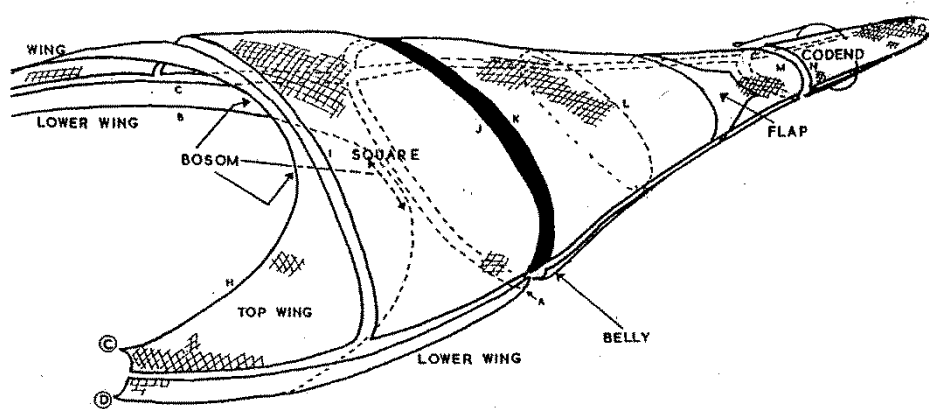

Figure 15. Sections of netting in a trawl gear.
**Square:** The section of netting fitted between the top body and the two top wings, so that it partially overhangs the footrope (see FIGURE 15).
**Top Wings:** Two sections of netting, usually shaped diagonally opposite one another, that form the upper mouth of the trawl (see FIGURE 15). The headrope is attached from one top wing end to the other, along the diagonal flymesh edges and across the bosom, or center part, of the square.
**Lower Wings:** Two narrow sections of netting fitted between the lower belly and the top wings to form the lower lip of the trawl net (see FIGURE 15). The footrope is attached from one wing end to the other, along the flymesh edges and across the lower belly bosom meshes. The lower wings are subject to the most abrasion, and consequently they are the sections which have to be continually repaired or replaced when working rough bottom substrate.